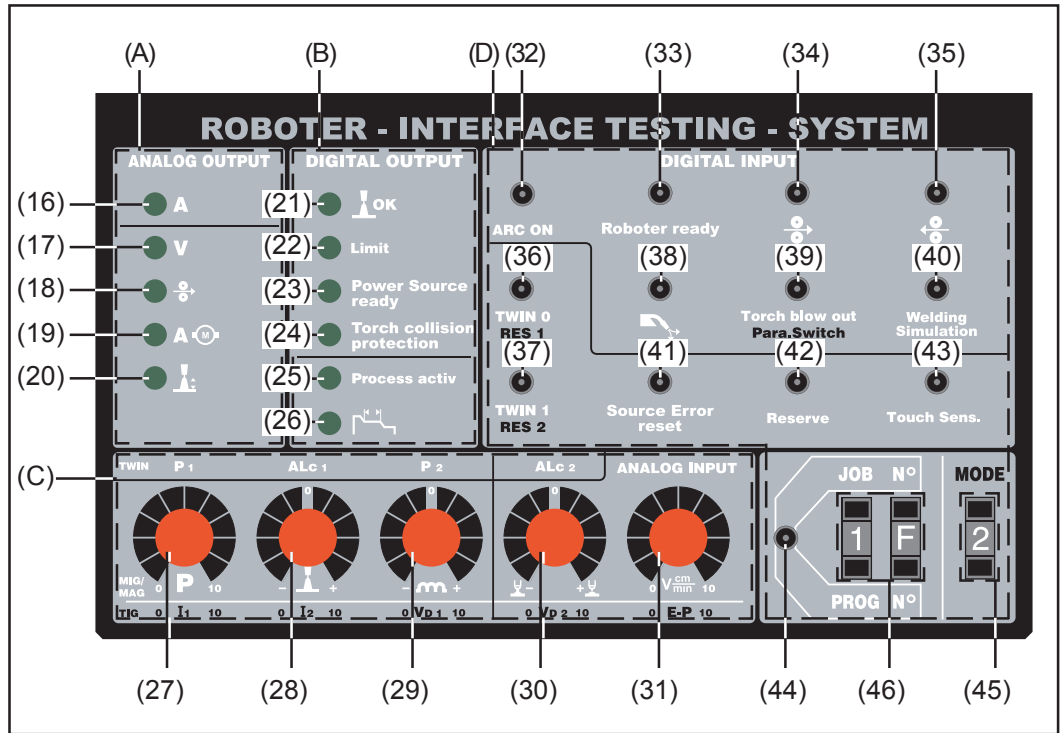

Fig.2 Operating panel of the Robot Interface Testing System
General remark Analogue output signals are grouped in Fig.2 under the heading (A) "Analog Output". The analogue output signals are routed from the robot interface to the Robot Interface Testing System.
General remark The digital output signals are grouped in Fig.2 under the heading (B) "Digital Output". The digital output signals are routed from the robot interface to the Robot Interface Testing System.
General remark The analogue input signals are grouped in Fig.2 under the heading (C) “Analog Input“. The analog input signals are routed from the Robot Interface Testing System to the robot interface.